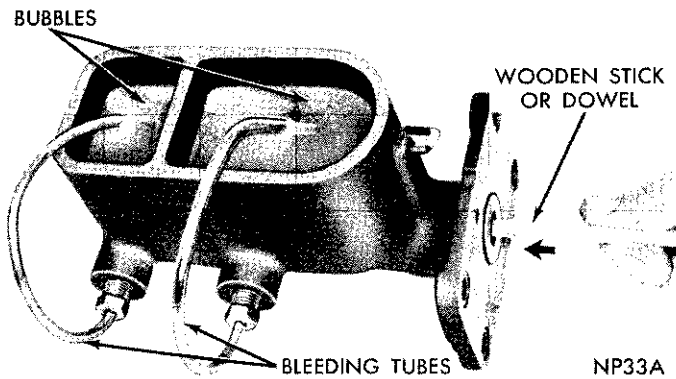

Fig. 7—Bleeding Master Cylinder
(1) Clamp master cylinder in a vise and attach bleeding tubes Tool C-4029 (Fig. 7).
(2) Fill both reservoirs with approved brake fluid.
(3) Using a wooden stick or dowel (power brake equipped vehicles) depress push rod slowly. (Note air bubbles.) Allow pistons to return under pressure of springs. Do this several times or until bubbles cease to appear (Fig. 7).
(4) Remove bleeding tubes from cylinder and install plug in rear outlet. (As tubes are removed, fluid remaining in tubes will syphon out.)
(5) Place cover and gasket over reservoirs and secure with bail.
(6) Remove master cylinder from vise and install on vehicle as follows: